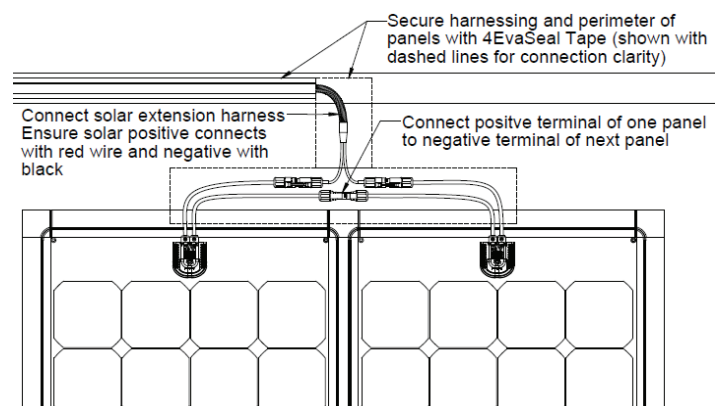

FIGURE 3
6. If installing multiple panels, use the SC cables that are connected to the solar panel junction box. Connect the positive SC connector to the negative connect or of the adjacent panel. This will connect the panels in series and compound the output voltage of the panel. (Figure 3)